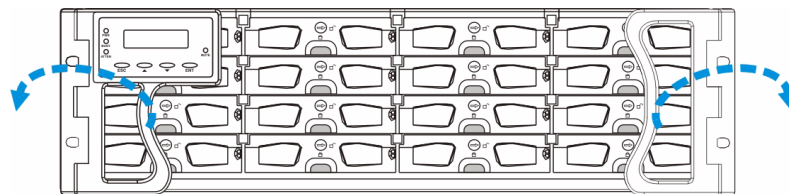

Fig. 6.19 Open the Front Handles
- **Handles:** If the failed hard drive is behind either the left or right front handle, unfold the handles to open the front access to the drive trays. (See *Figure 6.19*)